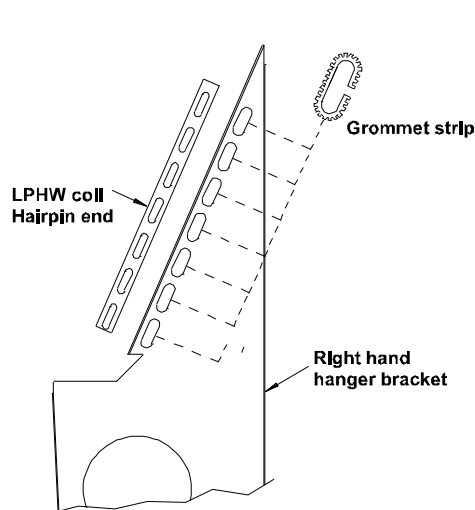

Fig. 1.
- 5 Remove the tape covering the slots in the right hand hanger bracket and fit the grommet strips in place, (Fig. 1).